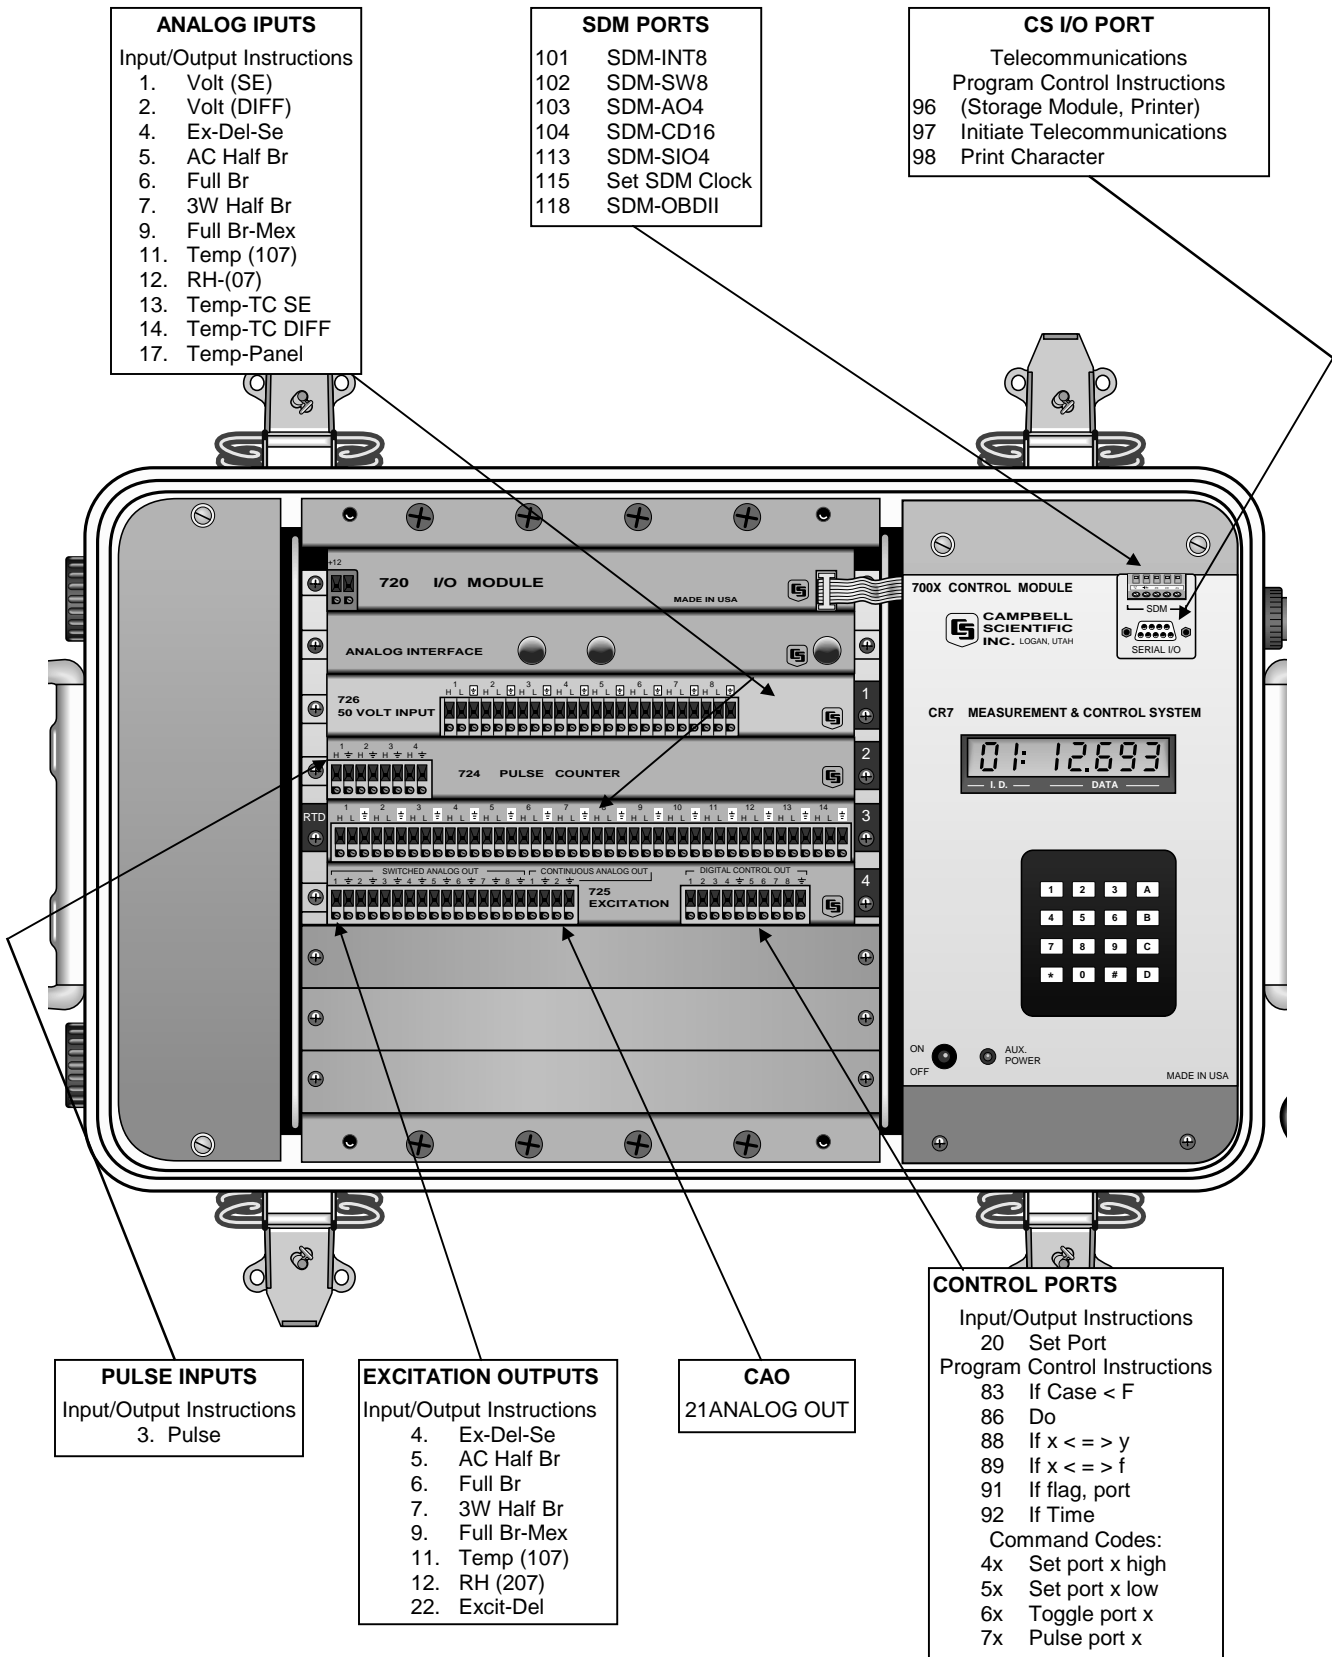

FIGURE OV1-2. CR7 Wiring Panel and Associated Programming Instructions
1. **INPUT/OUTPUT INSTRUCTIONS** (1-26,101-104, Section 9) control the terminal strip inputs and outputs (the sensor is the source, Figure OV1-2), storing the results in Input Storage (destination). Multiplier and offset parameters allow conversion of linear signals into engineering units. The Control Ports and Continuous Analog Outputs are also addressed with I/O Instructions.